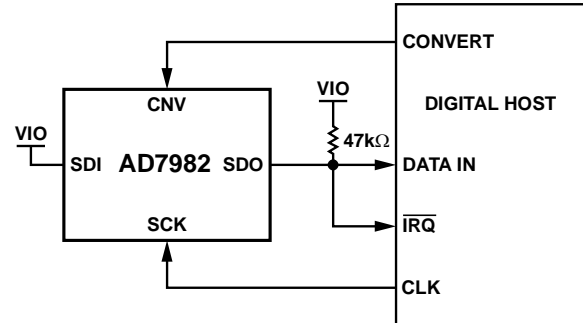
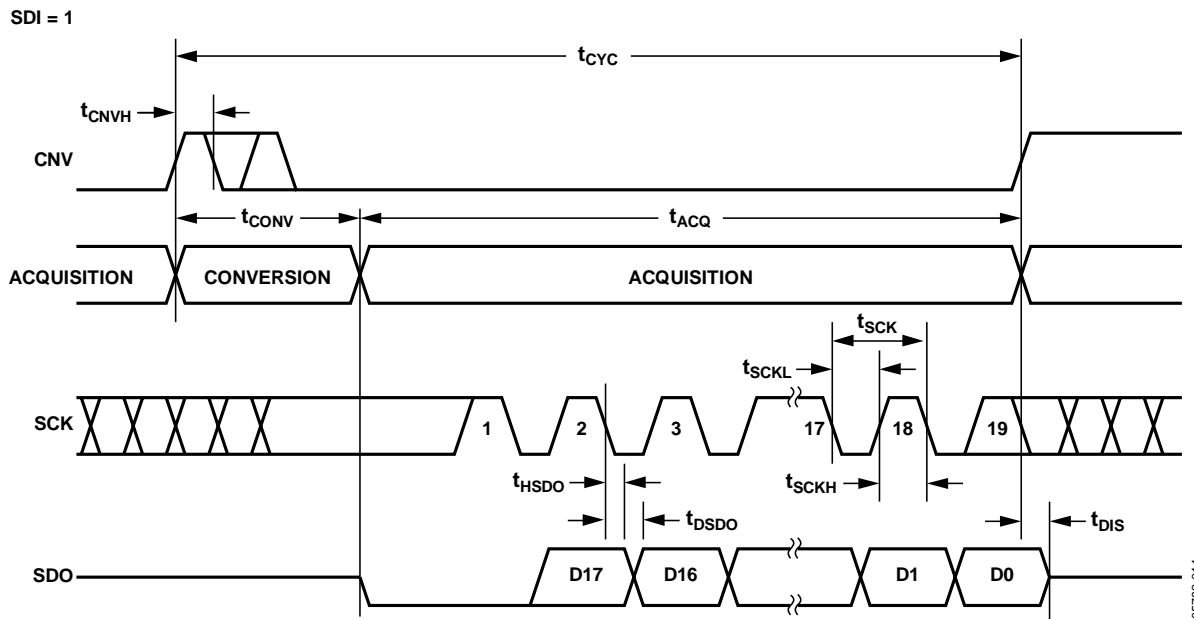
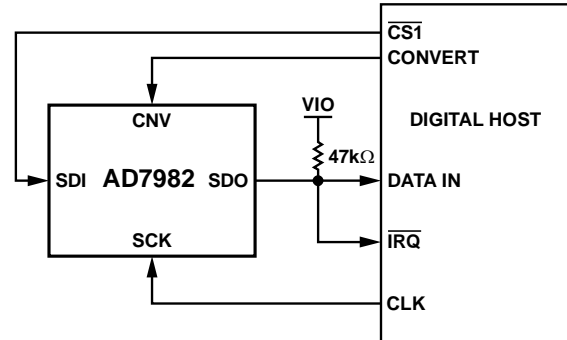
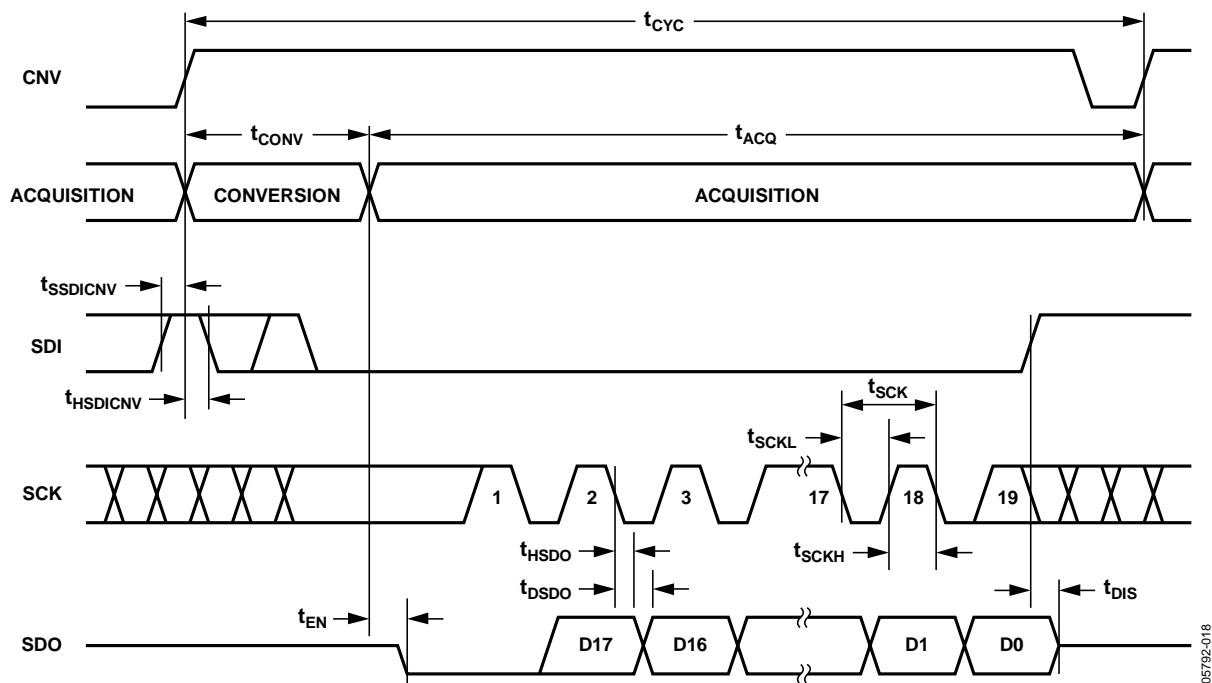

Figure 18. \overline{CS} Mode 3-Wire with BUSY Indicator Connection Diagram (SDI High)
Figure 19. \overline{CS} Mode 3-Wire with BUSY Indicator Serial Interface Timing (SDI High)
Figure 22. \overline{CS} Mode 4-Wire with \overline{BUSY} Indicator Connection Diagram
Figure 23. \overline{CS} Mode 4-Wire with \overline{BUSY} Indicator Serial Interface Timing
- In the $\overline{\text{CS}}$ mode, if CNV or SDI is low when the ADC conversion ends (Figure 19 and Figure 23).
The connection diagram is shown in Figure 18 and the corresponding timing is given in Figure 19.
The connection diagram is shown in Figure 22 and the corresponding timing is given in Figure 23.